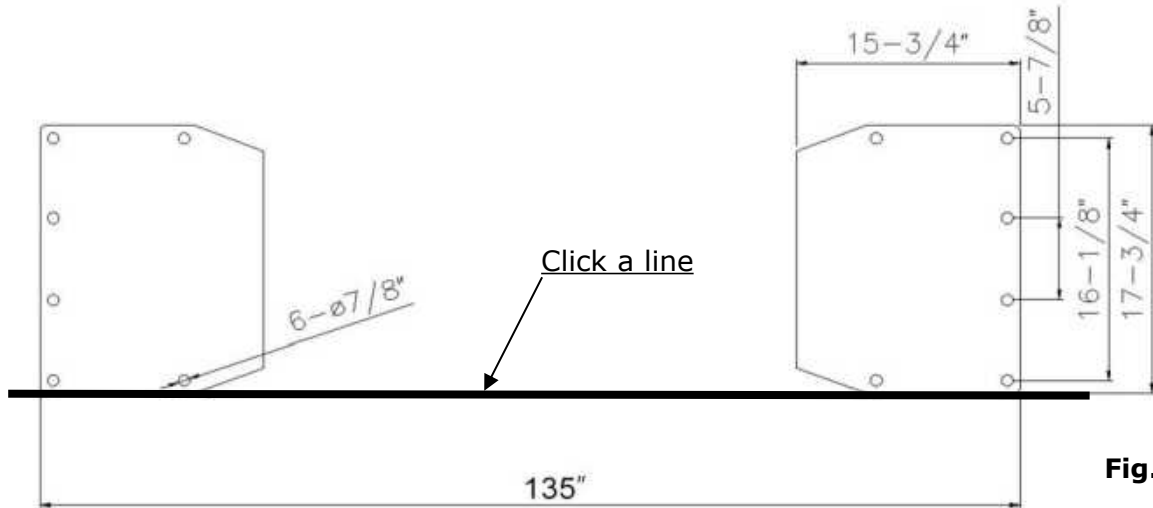

Fig. 9
B. Use a carpenter's chalk line to establish installation layout of base-plate (See Fig.9).